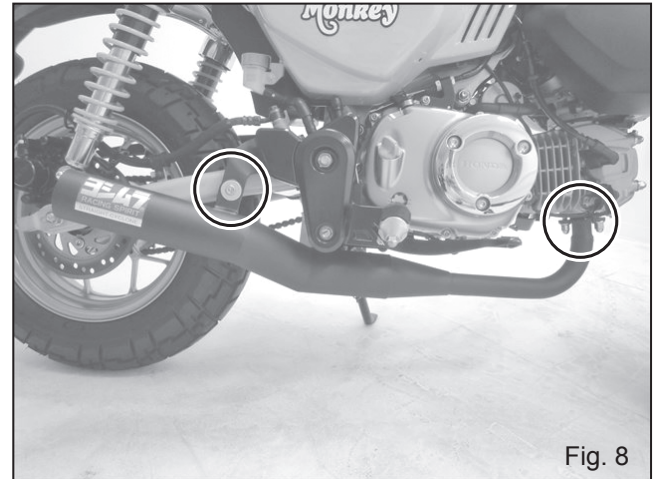

Fig. 8
- 7) Check that there are proper clearances between Yoshimura exhaust system and other components. Then, tighten and torque nuts on Exhaust Assy and Button Bolt M8x30 on Exhaust Bracket in order. (See Fig. 8 on next page)